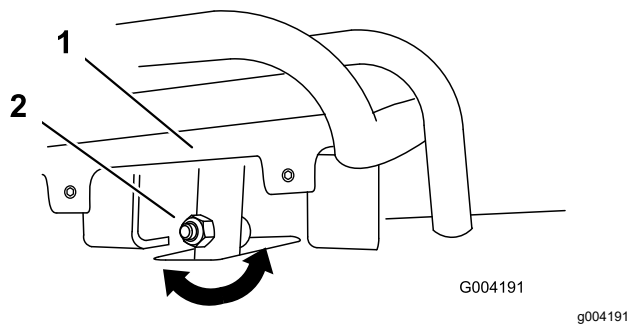
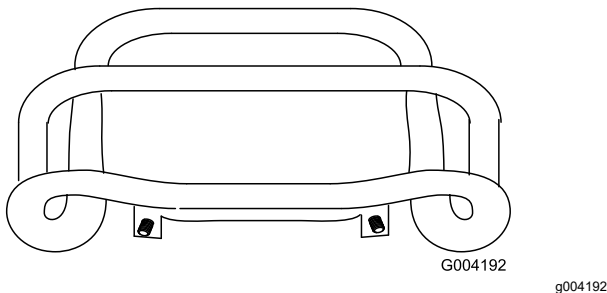

Figure 61
Figure 62
4. If the front of the traction control does not rest square and flush with the reference bar, loosen the flange nut and bolt in the stem of the traction control (Figure 61).
5. Adjust the traction control so that it rests flush against the reference bar when you pull it straight back (Figure 61 and Figure 62).